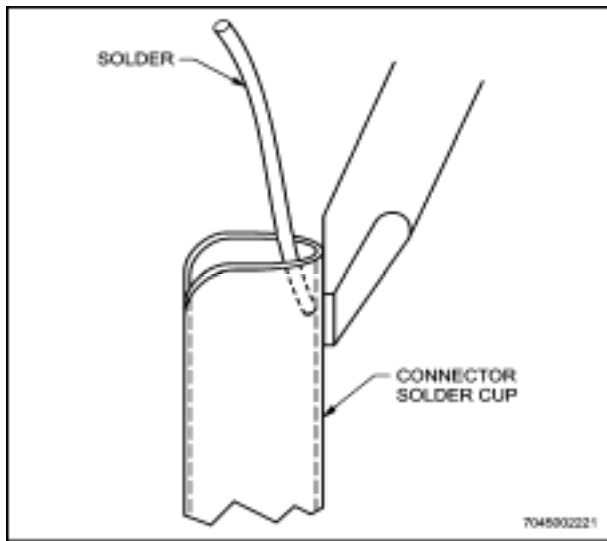

Figure 7-4 Correct Solder Application
31. Apply flux-core solder at the exact point between the metal and the soldering iron (as shown in Figure 7-4) and hold the iron directly against the assembly. Melt the solder on the joint, not the iron. Place the soldering iron firmly against the junction. If heavy "rocking" pressure is necessary, either the iron